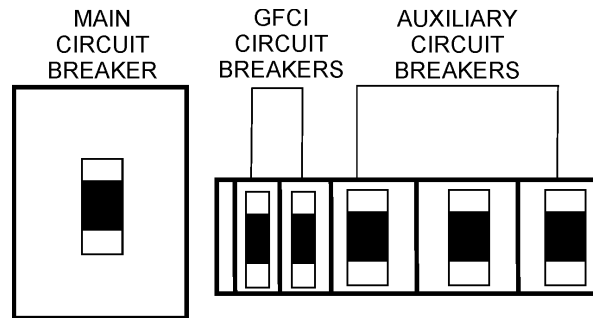

Figure 61. Main, AUX. and GFCI Circuit Breakers (OFF)
1. Switch the **MAIN, AUX** and **GFCI** circuit breakers (Figure 61) to the "**OFF**" position.